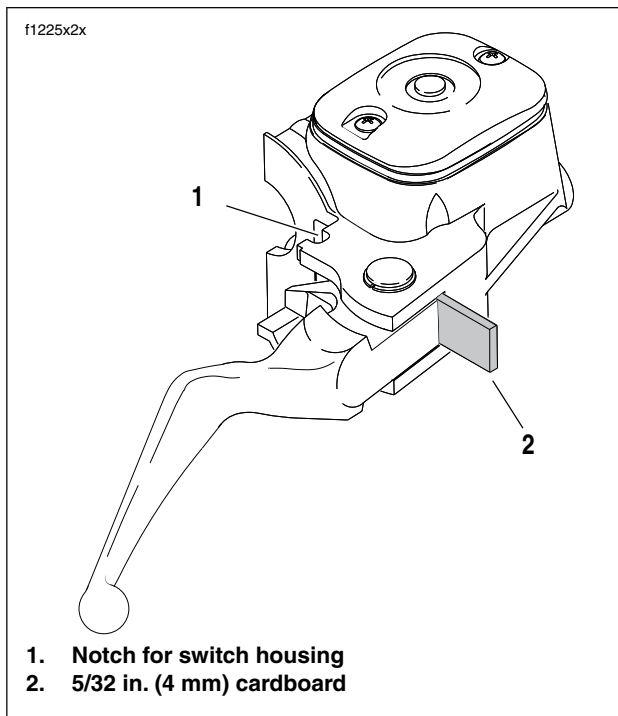

Figure 2-12. Cardboard Insert
15. See Figure 2-12. Insert a 5/32 in. (4 mm) cardboard between front brake lever and lever bracket.
See Figure 2-12. Do not remove the 5/32 in. (4 mm) cardboard insert wedged between the brake lever and lever bracket. Removal will result in damage to the rubber boot and plunger of the front stoplight switch during installation of the master cylinder assembly.